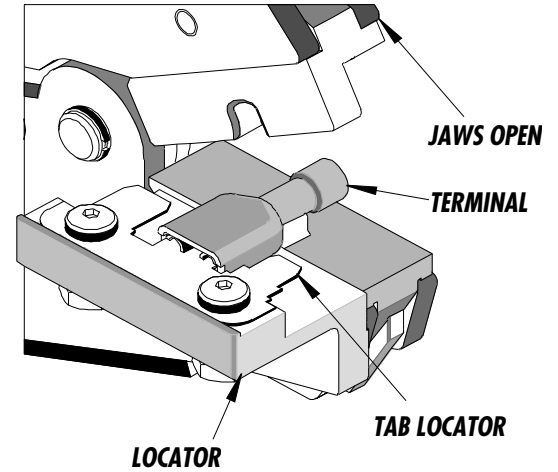

Figure 1
2. Push the terminal onto the tab locator all the way to the stop in the color-coded nest. The barrel of the terminal should be up (See Figure 1).